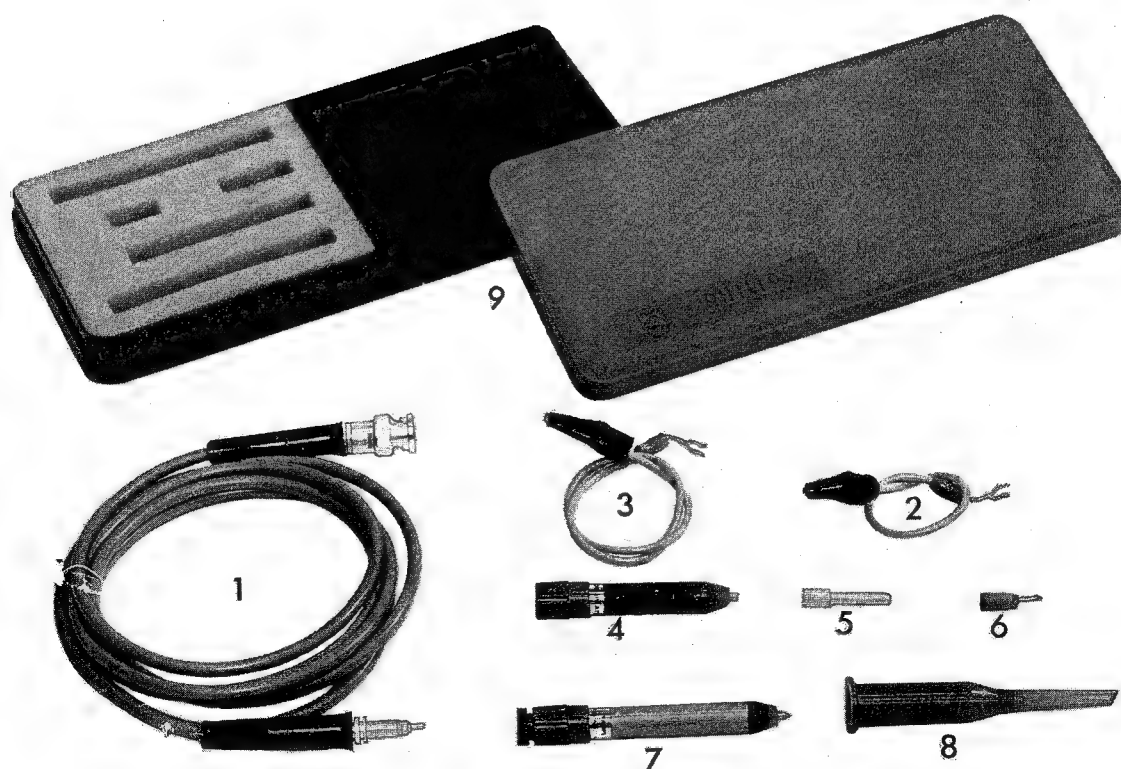

Fig. 3.18. Attenuator probe set PM9326 (PM 9327)
3.5.1. Attenuator probe sets PM 9326 and PM 9327 (Fig. 3.18)
1 probe cable	Fig. 3.18, item 1
1 earth lead 15 cm	Fig. 3.18, item 2
1 earth lead 30 cm	Fig. 3.18, item 3
1 measuring probe 1:1 (black)	Fig. 3.18, item 4
1 test pin	Fig. 3.18, item 5
1 test hook	Fig. 3.18, item 6
1 attenuator probe 1:10 (grey)	Fig. 3.18, item 7
1 test clip	Fig. 3.18, item 8
1 box	Fig. 3.18, item 9